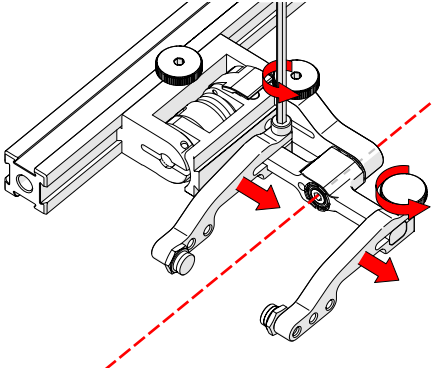

Fig. 155 - Adjust probe holder arms
5. Loosen the probe holder arm adjustment knob (Fig. 155) and remove the outer probe holder arm from yoke.
6. Adjust the inner probe holder arm as required to best centre the probe on the yoke's pivot axis (Fig. 155).
TIP: The probe holder yoke can accommodate different probe and wedge sizes of varying widths. It is best to centre the wedge with the yoke's pivot axis to reduce wedge tipping when scanning. Position the inner probe holder arm accordingly with the centre of the yoke (Fig. 155).